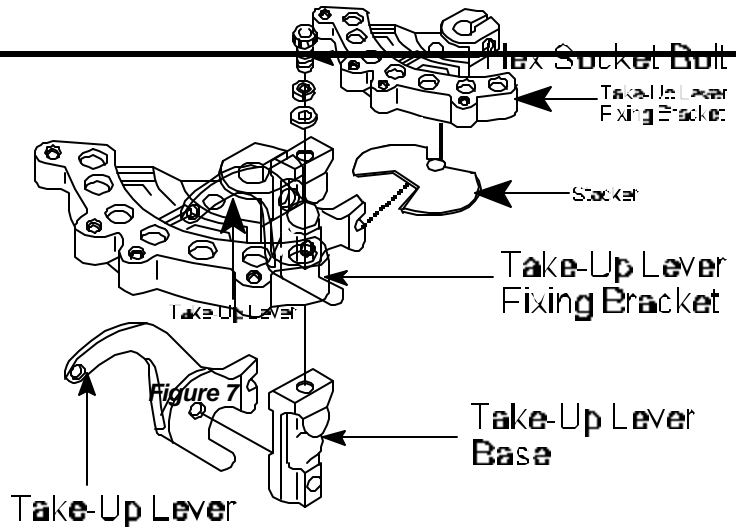

Figure 8
14. Using 3 mm Allen Wrench, **tighten** hex socket bolt securing Take-Up Lever and Base to Take-Up Lever Fixing Bracket. See *Figure 8*.